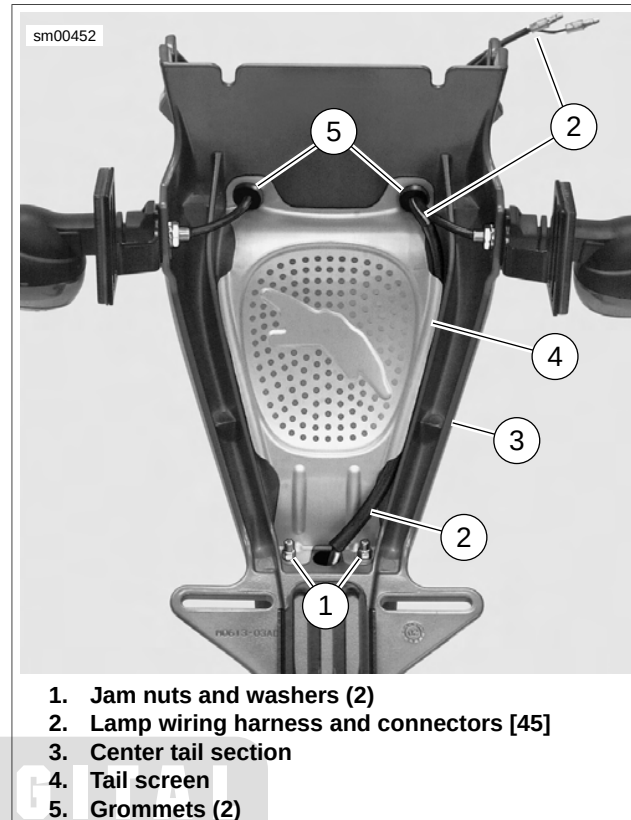

Figure 7-65. License Plate Lamp Mounting: Lightning
2. See Figure 7-65. Disconnect the two connectors [45] from license plate lamp harness (2).
3. Remove two jam nuts and washers (1) to detach license plate lamp from center tail section (3).
1. See Figure 7-65. Install license plate lamp assembly.
- a. Insert license plate lamp wiring harness and connections (2) through hole at rear of center tail section (3) and route between the tail section and the tail screen (4).
- b. Attach lamp assembly to tail section using jam nuts and washers (1) and tighten to 12-36 in-lbs (1.4-4.1 Nm).
- c. Attach the two connectors [45] from license plate lamp wiring harness and connectors (2) to main harness.